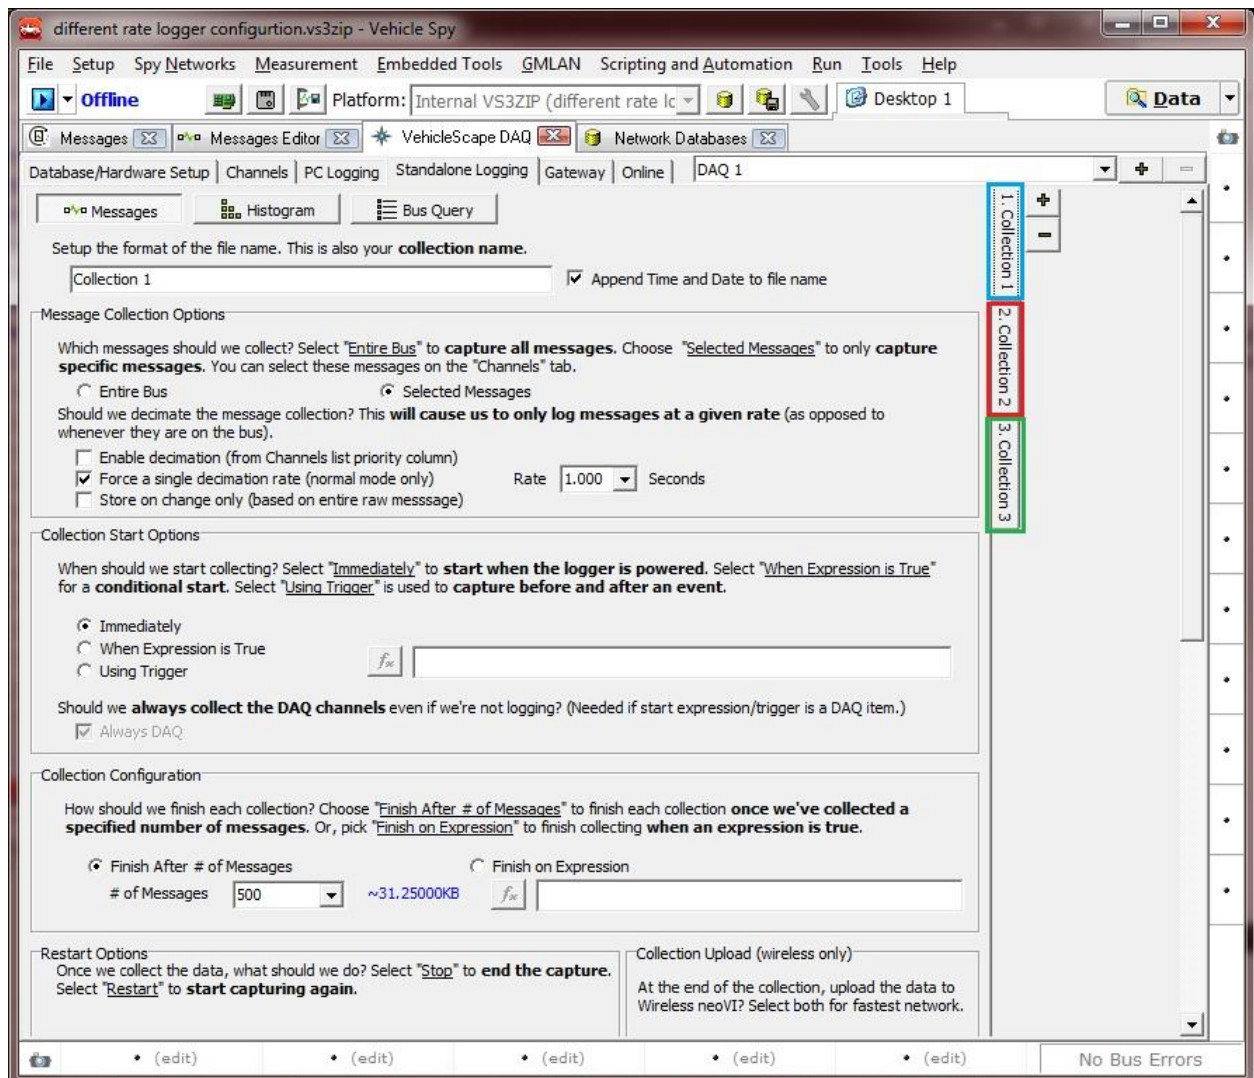

Figure 1: Create different Collections.
1. Select a Collection name as 'Collection 1' and check the box on its side to append Date & Time to the filename. Click on '+' button to add more collections. (Collection 2, Collection3, etc...) check the box to append Date Time to the file name. (Figure 1)